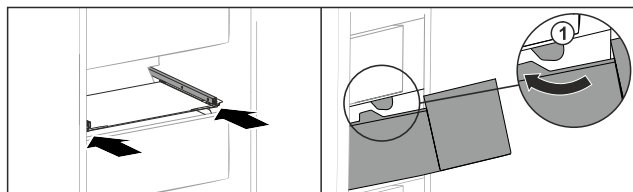

Fig. 238
- ▶ Vendoseni sirtarin mbi ndalues Fig. 238 (1).